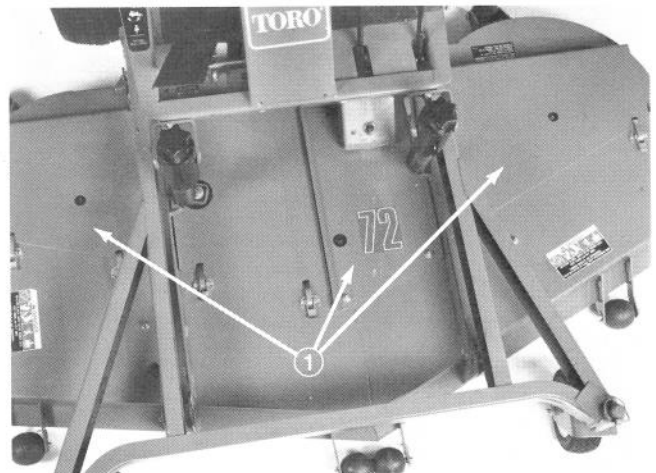

Figure 44
2. Release and unhook latches securing pulley cover on top of spindle housing to be serviced (Fig. 44). Also remove cover over idler pulley (Fig. 44) and loosen two nuts securing idler plate in place. This will release tension on the drive belt.